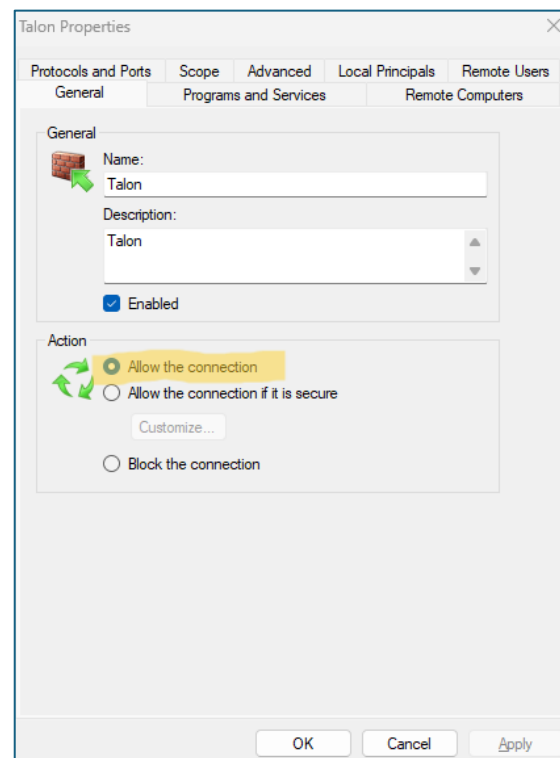

Figure 51 Talon firewall rule properties with the connection set to Allow the connection.
- b. Some Windows versions may contain multiple Talon firewall entries. Ensure that all entries are enabled (indicated by a green check mark in Figure 51). If an entry is not enabled, its settings must be modified. Repeat the following steps for each Talon entry if multiple entries exist. To modify the settings for the Talon-2 application, double-click the corresponding entry.
- i. Ensure that the connection is set to Allow the connection as shown below in Figure 51.